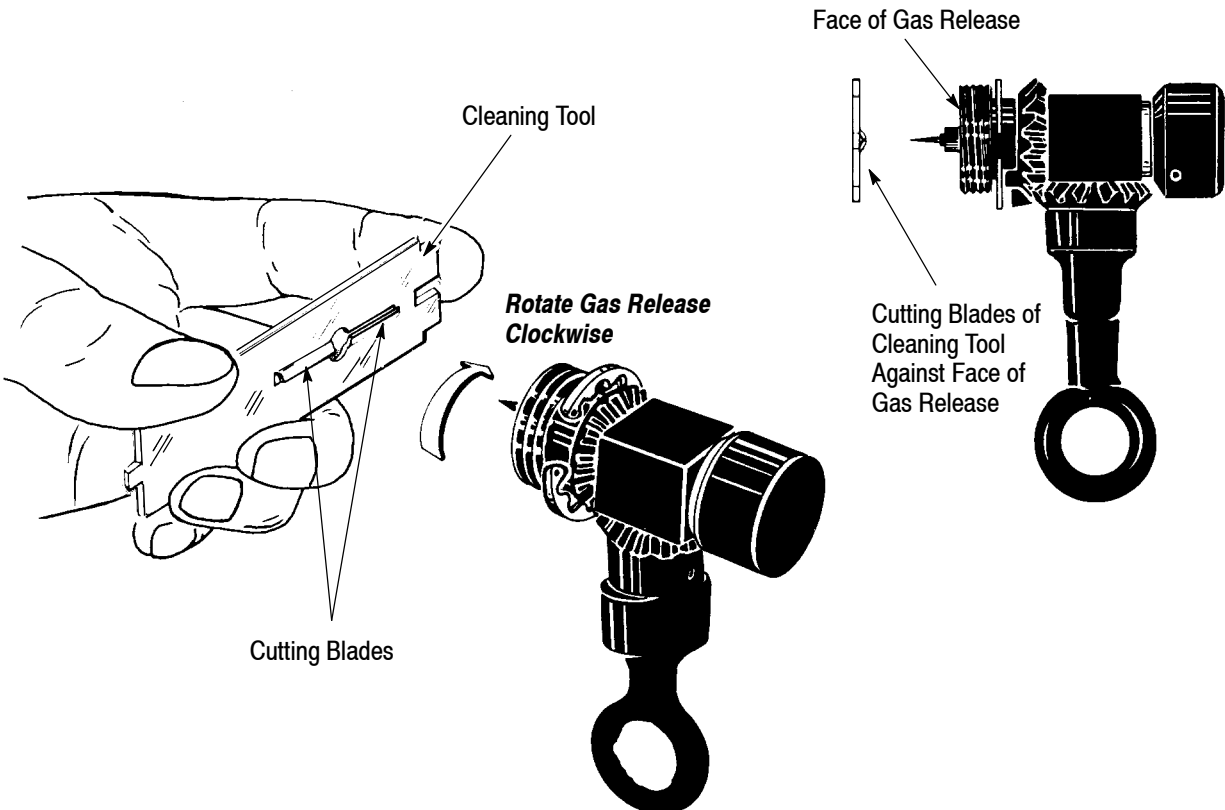

Figure 39
- a. Place cleaning tool on gas release, with cutting blades against face of gas release (Figure 39) and rotate cleaning tool.